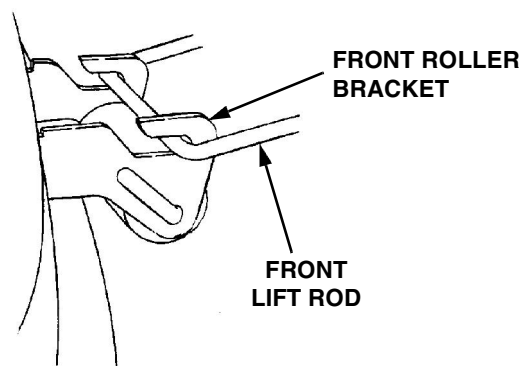

Figure 2-6
- While holding the front lift rod up, slide the mower deck forward until the rod aligns with both front roller bracket slots. Lower the lift rod into the front roller bracket slots and slide the deck rearward to engage the lift rod fully forward in the slots of the deck front roller bracket (See Figure 2-6).